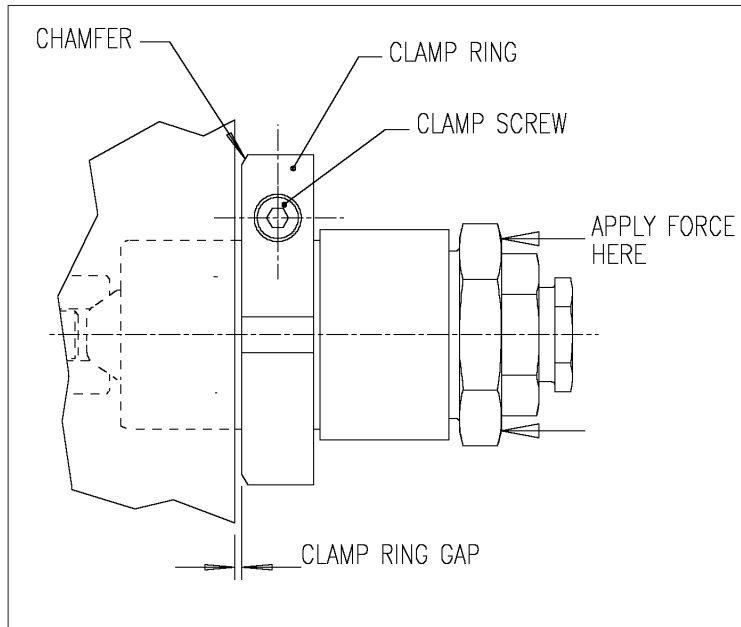

Figure 6 — Fitting a New Module
- 9.8. Fit the module into its port, and tap on the end of the adjuster hexagon (not the reset pin) with a mallet to make sure the module is fully seated (see fig. 6).